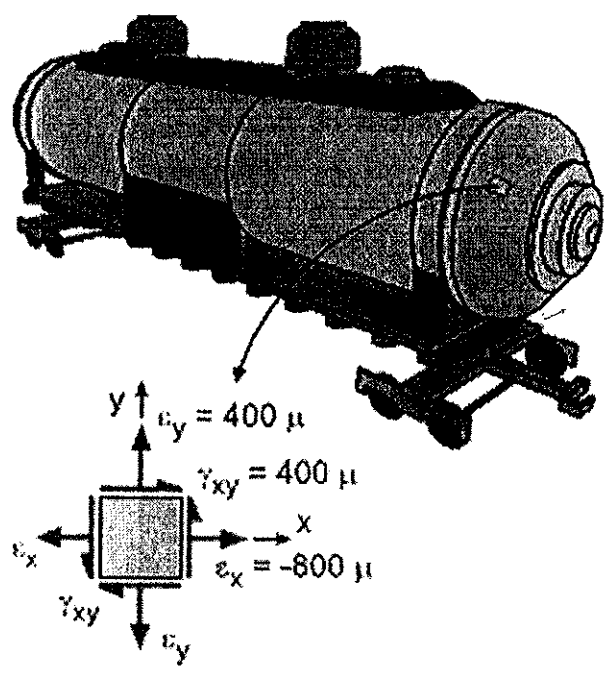

Figure Q4
- Q4. To better understand the strain state for an old oil tanker, strain gages were attached to the surface of the tanker at the location shown (Figure Q4). With the help of the strain gage results, it was determined that the strains at that location were $\epsilon_x = -800 \mu$, $\epsilon_y = 400 \mu$, and $\gamma_{xy} = 400 \mu$.